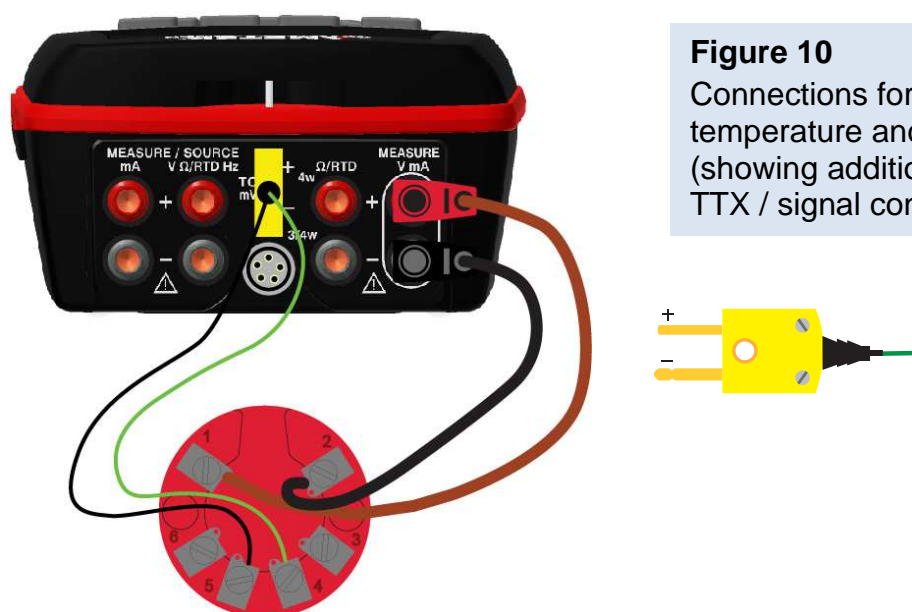

Figure 10
1. Connect the thermocouple leads to the appropriate polarized TC mini plug, and insert the plug into the TC terminals on the calibrator, as shown in Figure 10.